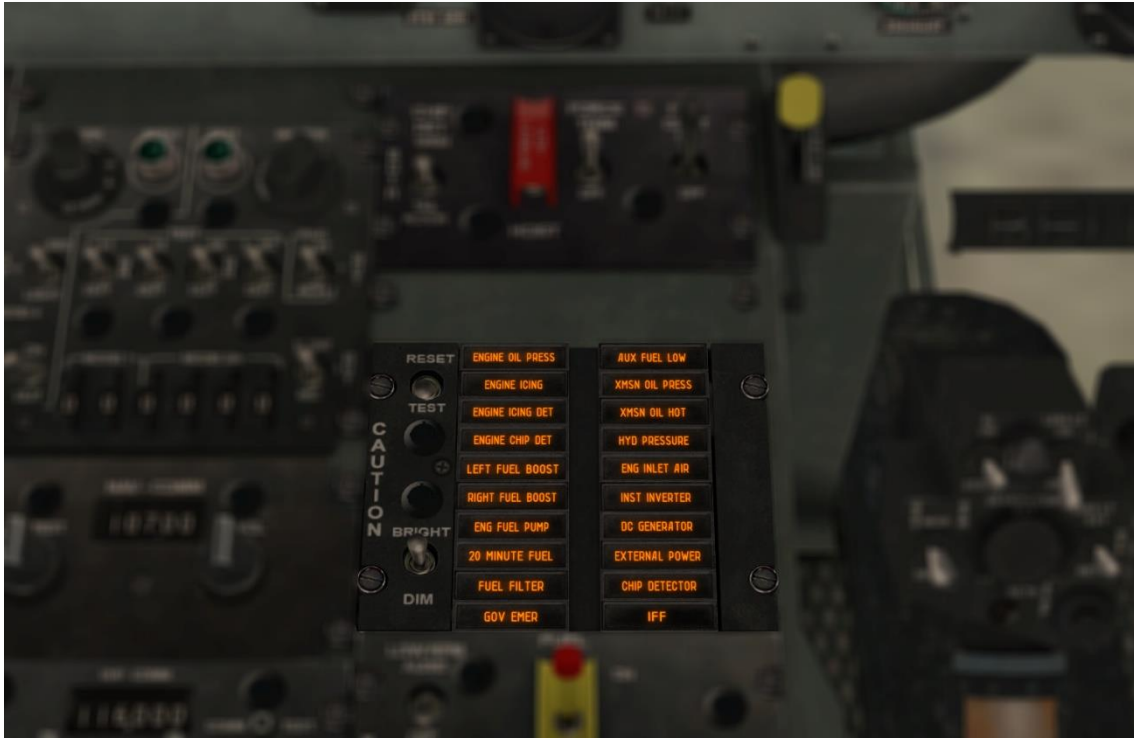

Figure 5.2. CAUTION panel location.
- b) Caution panel. The CAUTION panel is located on the pilot side of the pedestal (Figure 5.2). Worded segments illuminate to identify specific fault conditions. The worded segments are readable only when the light illuminates. When a light illuminates, flickers or full illumination, it indicates a fault condition. Refer to Caution Lights Panel for explanation of the fault conditions.